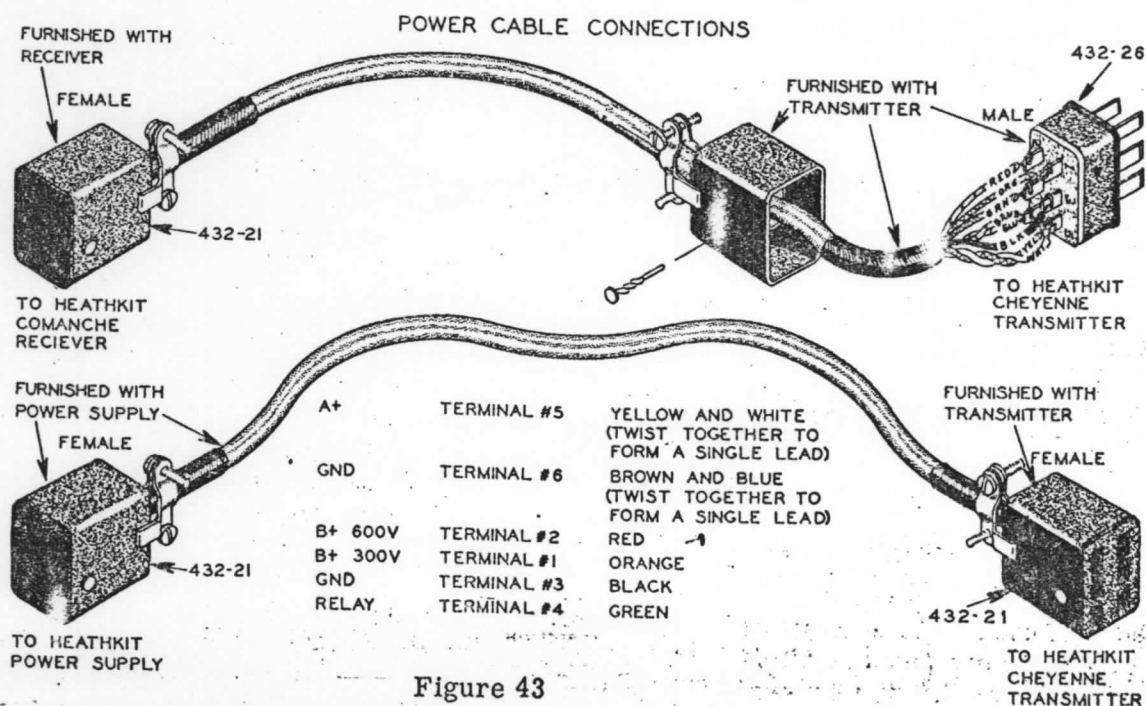

Figure 43
- (/) Refer to Figure 43 and connect the wires as indicated. Be sure none are shorting, then slide the shell back over the plug and reinsert the locking pin.